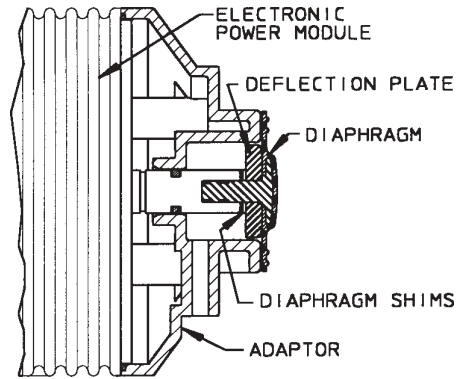

Figure 4.1
- c. Slide the diaphragm deflection plate onto the back of the diaphragm stud, radius side towards the diaphragm. Next, slide two shims onto the diaphragm threaded stud and screw the diaphragm into the EPM unit. Refer to Figure 4.1. Turn diaphragm clockwise until deflection plate and shims are tight against solenoid shaft and the diaphragm